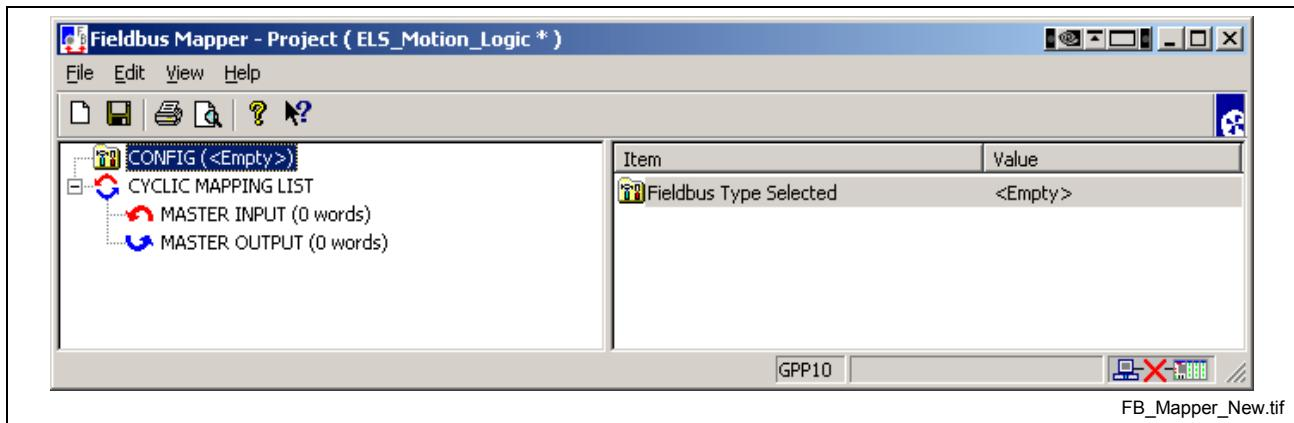

Fig. 7-129: FBMapper – Project Window
2. Select **Commission** \Rightarrow **Fieldbus Mapper**. The main Fieldbus Mapper window is displayed (refer to Fig. 7-129 below).